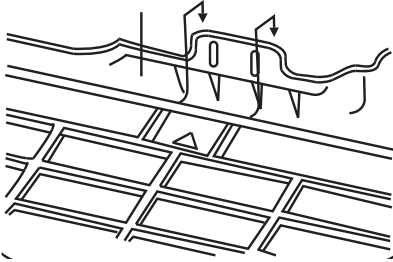
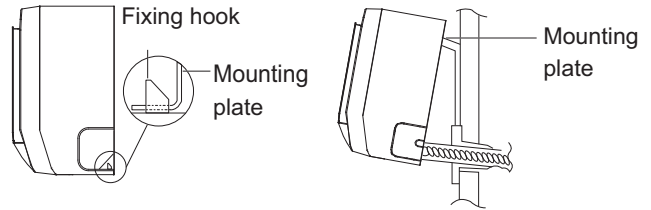

Fig. 14 - Hanging Indoor Unit
Fig. 17 - Hang Indoor Unit
4. Hang indoor unit on upper hooks of wall mounting plate (as shown in Fig. 14 and Fig. 17).